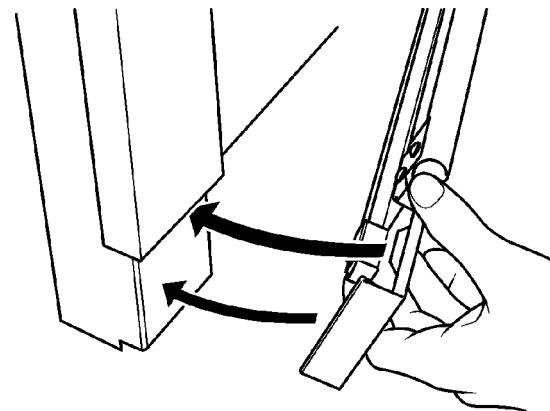

Figure 16. Fitting the lower section to the 'Chic' and 'Mirage' fascia.
2. The lower section of the fascia is secured with magnets. Locate it as in figure 16.